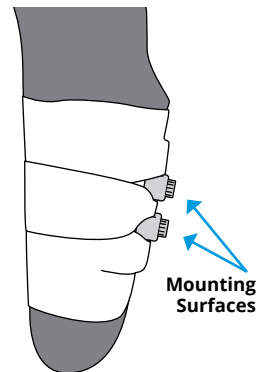

Figure 2
16. To perform a test fitting, wrap rigid, fiberglass casting tape through the grooves of the mounting plate being sure not to cover the two mounting surfaces (Figure 2).